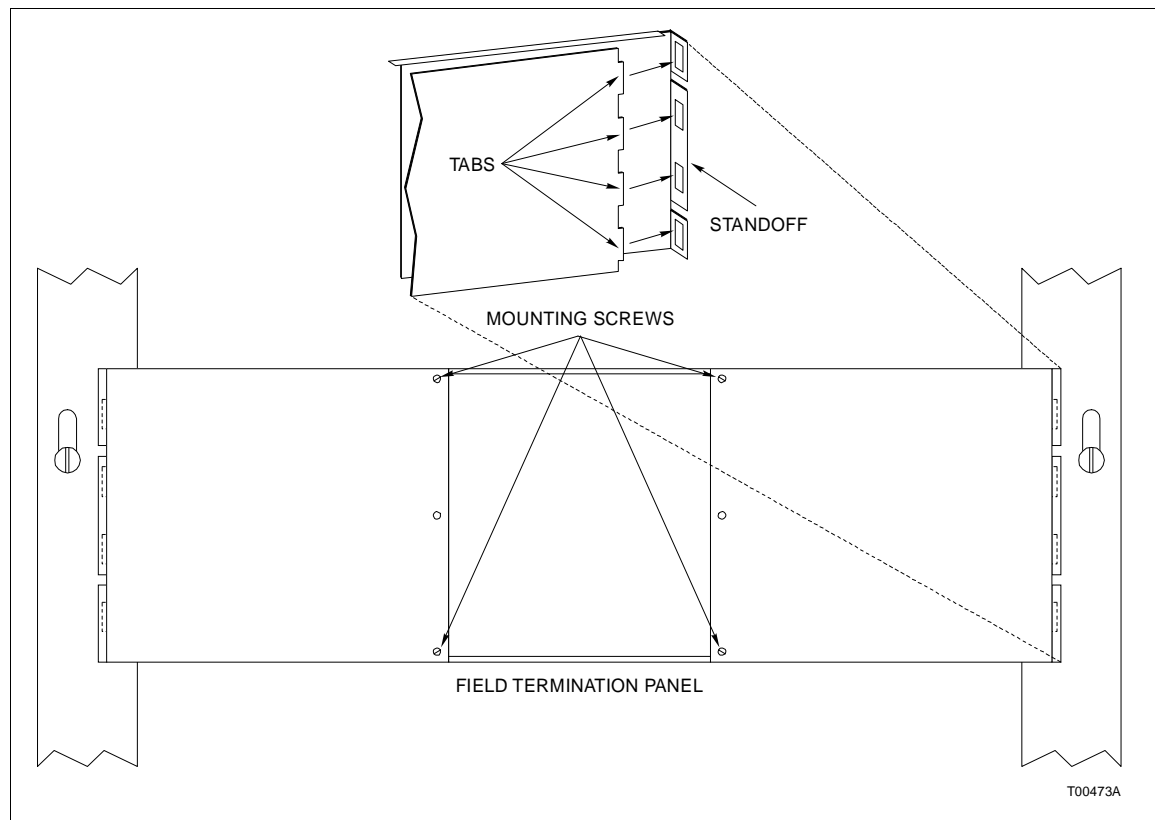

Figure 2-1. Installation for Termination Unit
The NTAM01 unit mounts on a standard NFTP01 Field Termination Panel. Figure 2-1 shows how to secure the termination unit to the NFTP01 panel.
3. Mount the termination unit to the field termination panel with two, number 10, 3/4-inch screws. Do not overtighten the screws. See Figure 2-1.